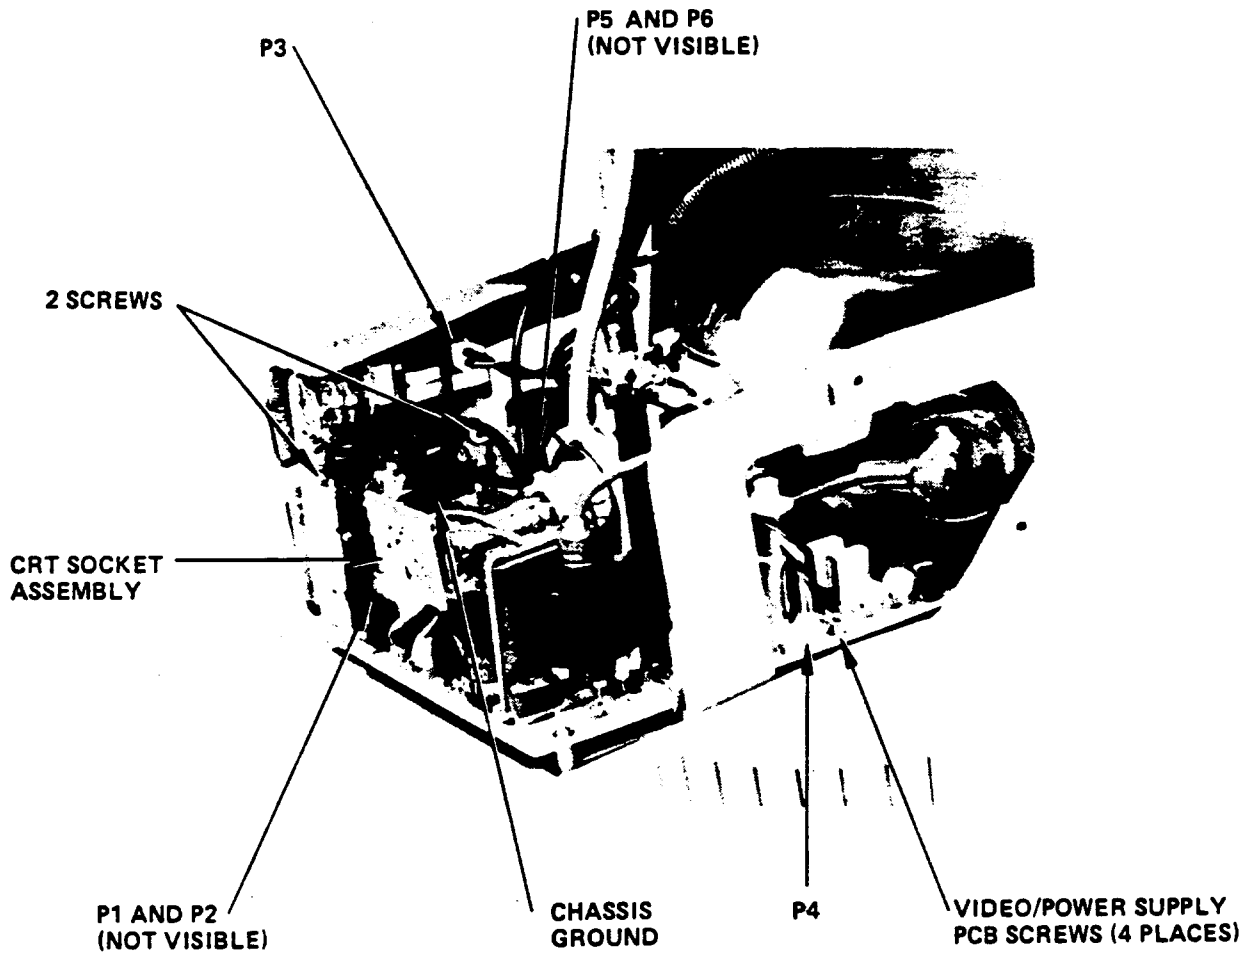

Figure 2-5. Removal of the Video/Power Supply PCB and the Power Supply Control PCB
4. Remove the chassis ground (black wire) from the CRT Socket Assembly (refer to Figure 2-5 for this step and the following steps).
6. Remove the four screws that hold the Video/Power Supply PCB onto the chassis (refer to Figure 2-5). Slide the PCB back a few inches to facilitate the removal of the connectors.